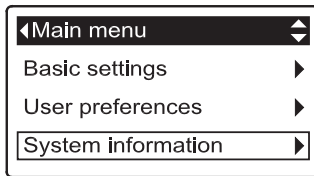

FIG. 54
1. From any of the rolling status screens, press the SELECT (O) button to display the **Main menu**.
2. Press the DOWN (▼) button to scroll through the menu options until **System information** is highlighted (See Figure 54).